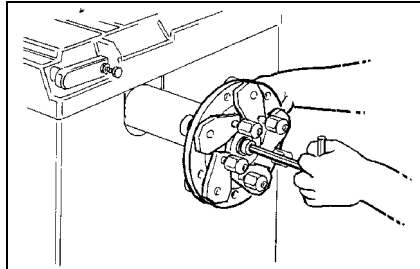

fig.10
- **Fig. 10** shows the **universal flange** fixing system